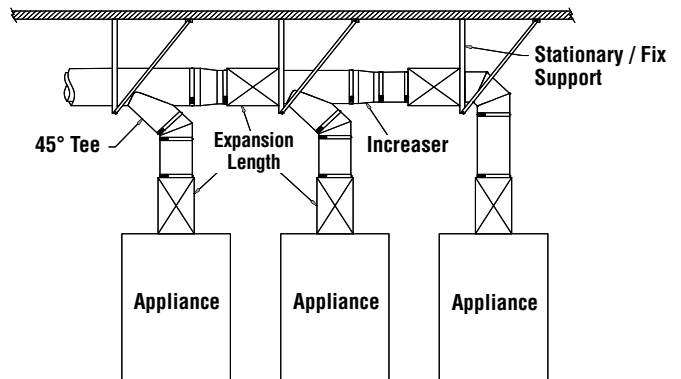

Figure 13 - Multiple appliance connection with 45° tees
- When using 45° tee to connect multiple appliances together, thermal expansion must be considered. Thus prepared to prevent bending moments on the tee, an expansion length must be installed between the tees (see **figure 13**).